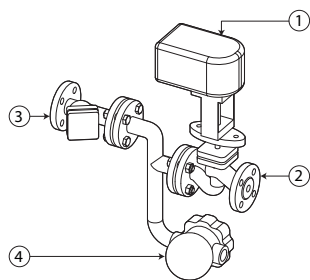

Fig. 4.b
- For threaded control valves, SAKV*****U*, with an optional fitting kit, SAKR*****U*, attach the fittings to the valve as shown in figure 4.a.
- Attach the ① optional actuator, SAKA*****U*, to the ② control valve.